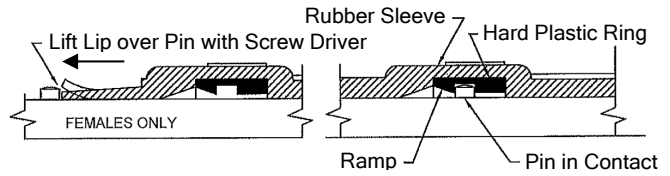

Figure 13
13. Pin must POP into pocket. See Figure 13.